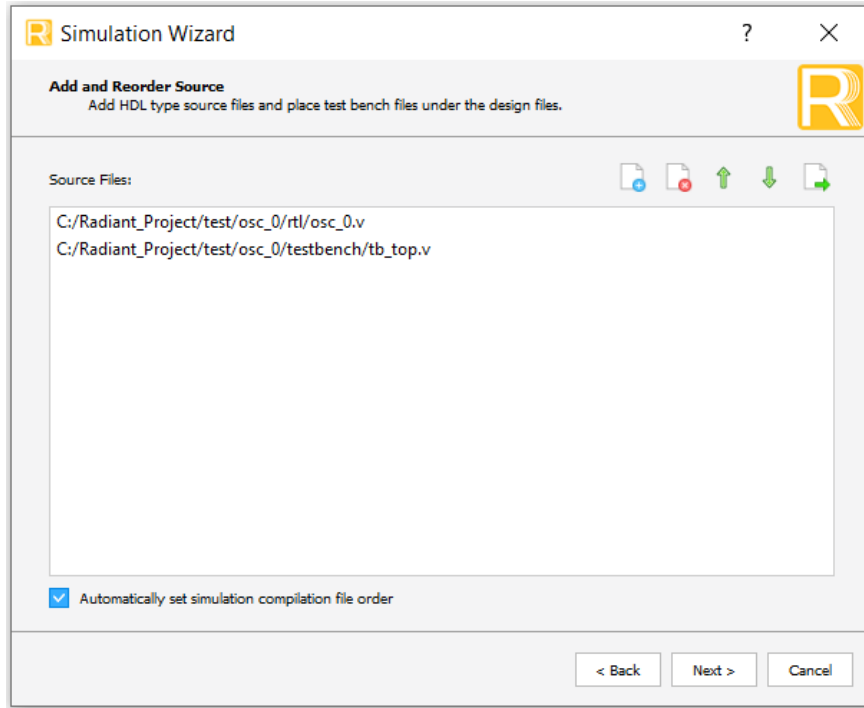

Figure 3.5. Adding and Reordering Source
2. Click **Next** to open the **Add and Reorder Source** window as shown in Figure 3.5.